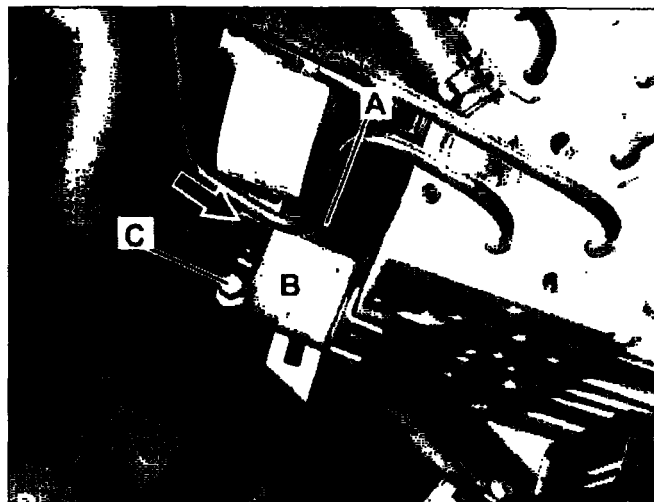

Figure 19
- In order to avoid breaking the self-tapping screw (B) during installation, the screw (B) must be **positioned absolutely straight**.
- In the event self tapping screw (B) is broken during installation of bracket (A) perform step 18 then continue with campaign (installation of bracket due to breakage of mounting screw will **not** be covered under warranty).
- Remove self tapping screw (B).
- Position bracket (A) on SBC hydraulic unit, reinstall self tapping screw (B) and torque to 7 Nm.
18. Install clamp-on mounting bracket (B, Figure 19):
- Position mounting bracket (B) onto SBC hydraulic unit (A) as shown in Figure 19.
- Ensure mounting bracket (B) is flush with SBC hydraulic unit (A).
- Torque mounting clamp screw to 5 Nm while pressing bracket (B) onto SBC unit (A).